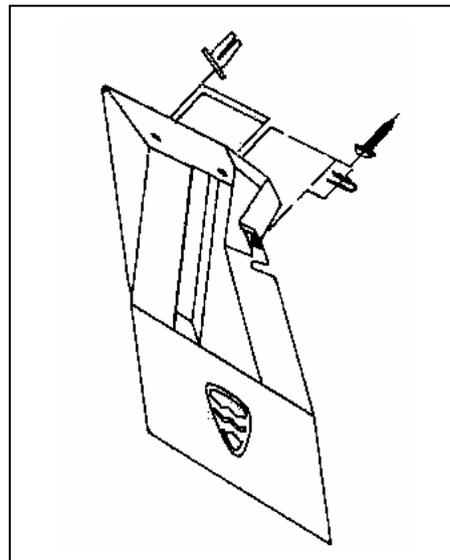

Fig. 19-36
- ① Attach rear wheel splash guard firmly to body in its right position;
- ② Tighten the screw to fix rear wheel splash guard firmly according to the arrow direction with tapping screw as shown in Fig.19-36.